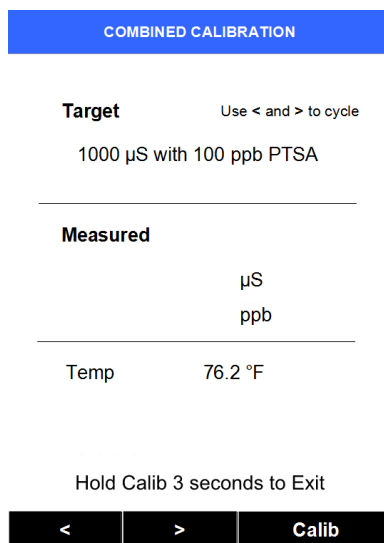

Figure 15
- 4) A screen similar to Figure 15 will appear. The normal default conductivity calibration mode is the Combined Calibration, but is easily changed to the other calibration modes as desired.
- 2) If after Figure 15 (Step 6) a path showing all calibration targets types is desired, use a > rather than < as above (< goes directly to User Defined, > goes in the "opposite direction). This will need more > presses than the single < press above.